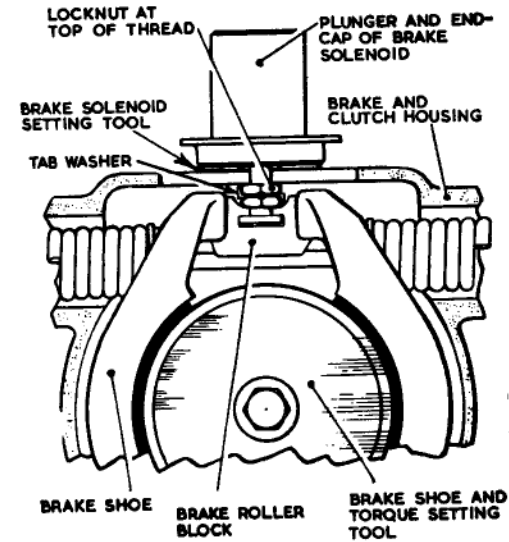

Fig. 12. Brake setting
- (10) Adjust the brake setting in the following manner: —
- (a) Remove the solenoid lower end cap and plunger and set the locknut (10) and roller block adjuster (11) on the solenoid plunger (9) so that the end of the plunger is about 0.15 in. under flush with the lower face of the adjuster and the locknut is at the top end of the thread.
- (b) Insert the brake roller block (12) between the horns of the brake shoes, ensuring that the rollers run on the track plates (27).
- (c) With the solenoid setting tool (Table 4, item 17 and fig. 12) interposed between the top face of the housing and the solenoid lower end